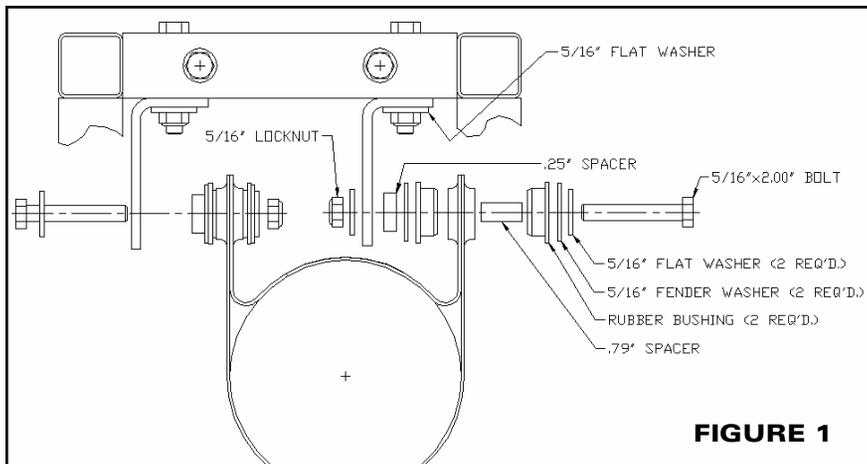

FIGURE 1
1. Remove nuts from stock bolts in rear subframe and install mount brackets, with washers, as shown in FIGURE 1. Install the large bracket on the left and the small bracket on the right. **DO NOT TIGHTEN.**
2. Install two rubber bushings and one spacer in each muffler mount bracket as shown in FIGURE 1.
3. Install muffler using 5/16" x 2" bolts, washers, aluminum spacers, and nylock nuts as shown in FIGURE 1. Install right side first then the left side. **DO NOT TIGHTEN.**